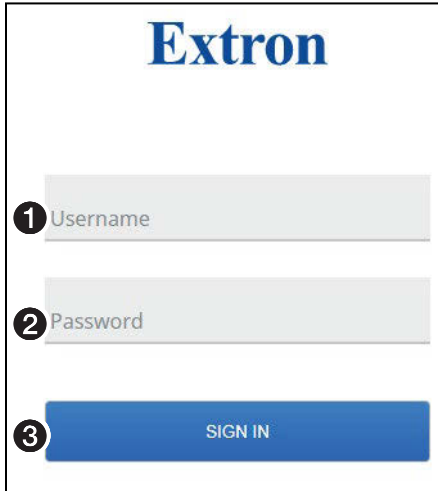

Figure 4. Login Dialog Box
5. Click **Proceed to <IP address> (unsafe)** (❷). The browser opens to the Login dialog box (see figure 4).
6. Enter the **username** and **password** in the appropriate fields (see figure 4, ❶ and ❷) and click **Sign In** (❸). The browser opens to the home page of the embedded web pages (see figure 5 on the next page).